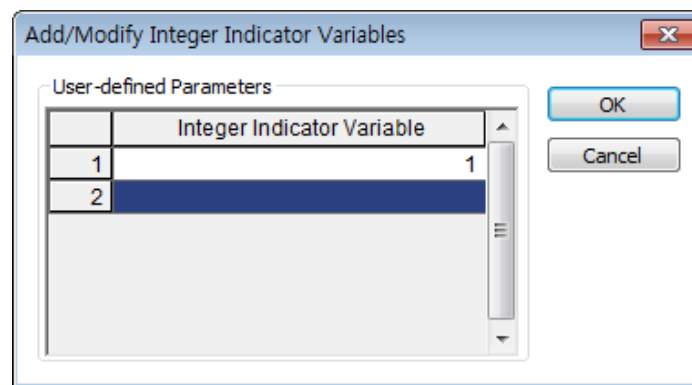

Figure 12. User-defined Integer Indicator Variable input window
- 1) Input the Integer Indicator Variable for each corresponding row in Figure 12.